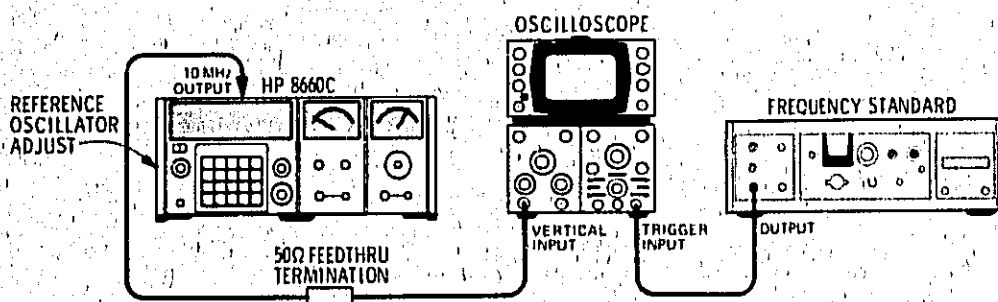

Figure 5-2. Reference Accuracy Adjustment Test Setup
1. Internal Reference Accuracy Adjustment (see Figure 5-2). (Allow adequate warmup time.)